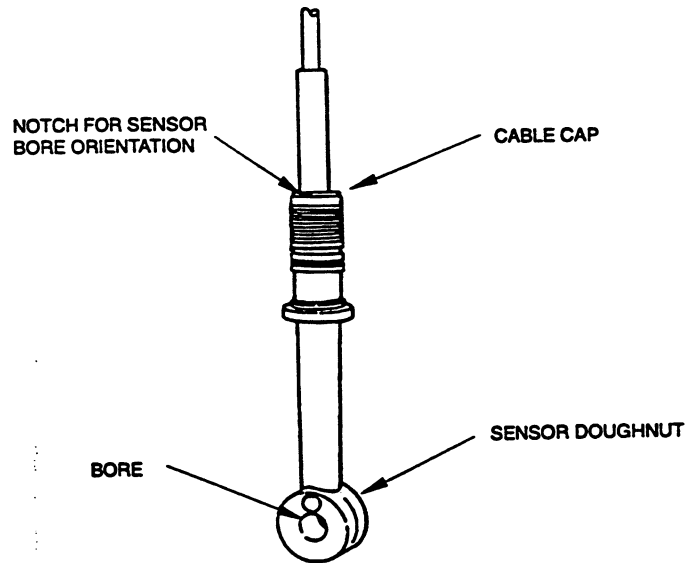

Figure 3. Sensor Types -NL, -SP, -LB, -RE, -BW, and -UT Mounting (Type -NL illustrated)
This section applies to Sensor Types -NL, -SP, -HP, -LB, -RE, -BW, and -UT only (see Figure 3).
2. Note that the temperature sensing device (thermistor or RTD) is strategically located in the thermistor/RTD housing (see Figure 3). The response to thermal changes is faster with the -NL, -SP, -HP, -LB, -RE, -BW, or -UT sensor than with other 871EC Sensors because of this design.